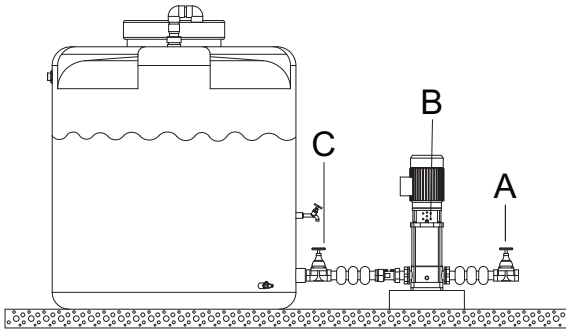

Figure 12: Closed circuit
7.3.1 In a open or closed circuit with sufficient supply pressure (see figure 12 Closed circuit)